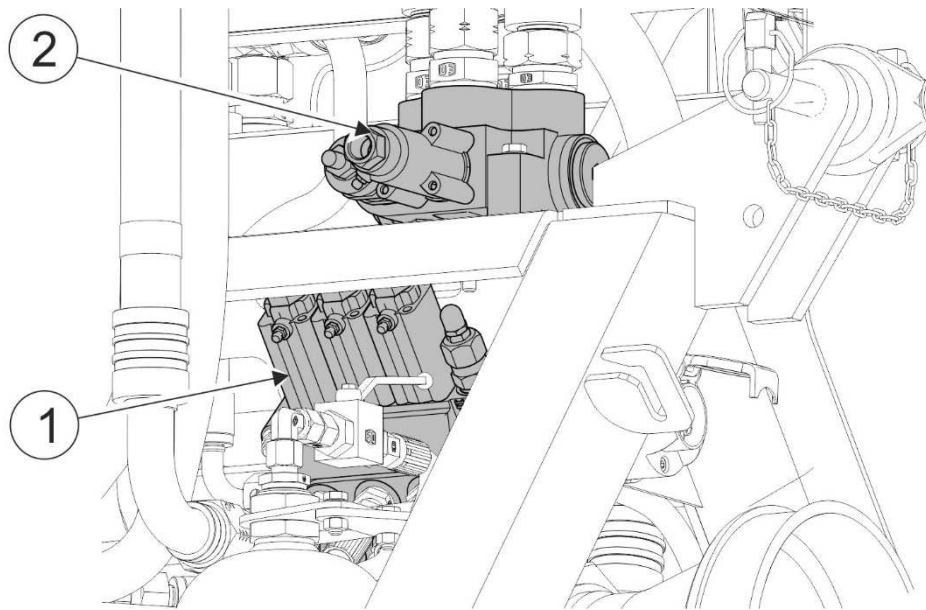

FIGURE 5.3 Hydraulic selective control valves.
(1)- hydraulic selective control valve for support system arms cylinders; (2)- hydraulic selective control valve for the working head hydraulic motor.
The hydraulic selective control valve (1) (FIGURE 5.3) is used to control the three hydraulic cylinders of the support system. Single section selective control valve (2) drives the operating head hydraulic motor. Selective control valves are controlled by means of control panel from the tractor's cab. Condition of seals of selective control valves should be checked daily.